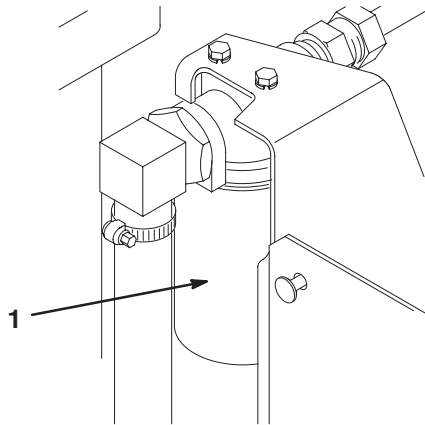

Figure 20
4. Clean the area around the hydraulic oil filter (Fig. 20). Remove the filter from the bottom of the filter housing and allow the oil to flow into a drain pan. Use a bottom-type filter wrench. Dispose of the oil filter properly.